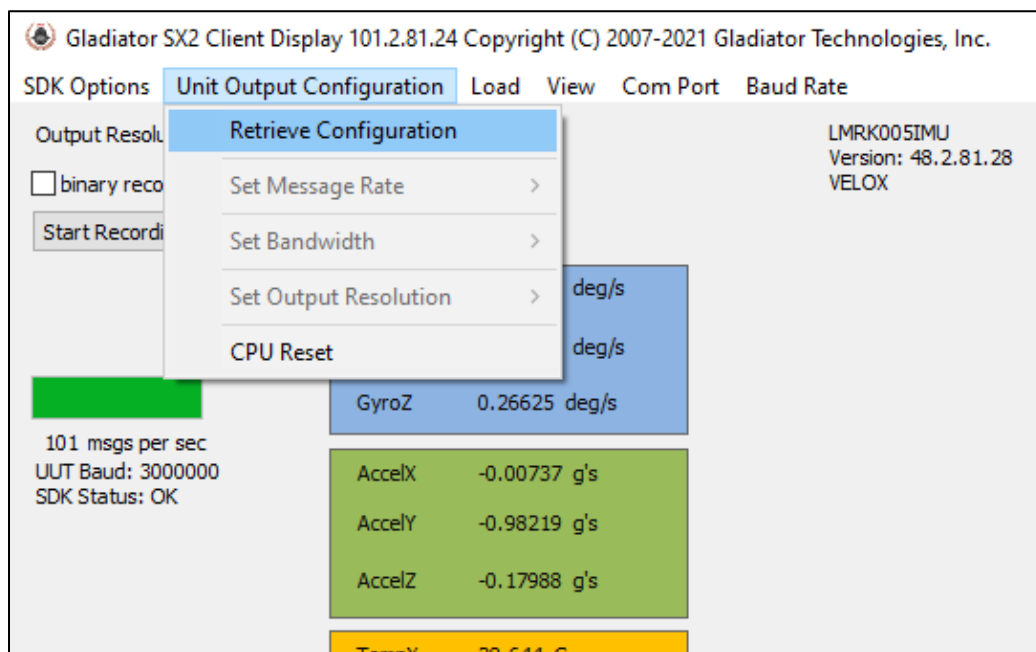

Figure 13. Glamr Retrieve unit Configuration option
*Before these settings can be changed, the current device settings must be retrieved from the connected unit. This is accomplished by selecting “Retrieve Configuration” under the “Unit Output Configuration” menu as shown in Figure 13.*